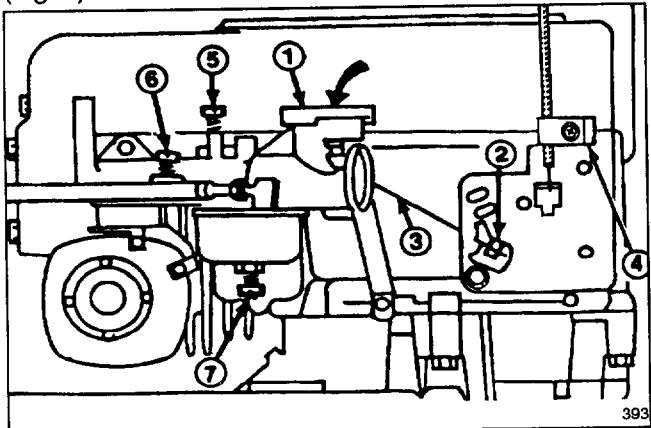

Figure 14
2. Move throttle control lever to CHOKE position and check the position of the choke butterfly; it should be fully closed (Fig. 14).
3. Move throttle control lever to FAST position. The butterfly should be in the fully open position (Fig. 14).
2. Loosen the throttle cable clamp screw (Fig. 14) and move the control cable casing and wire until the throttle lever touches choke link. Check for proper choke operation.
1. Needle Valve (Fig. 14) — Close valve by gently rotating it clockwise.
2. Rotate — open — the needle valve 2 turns counter-clockwise (Fig. 14).
4. Rotate needle valve (Fig. 14) clockwise, 1/8 turn at a time, until engine starts to lose speed. Let engine react to each 1/8 turn setting.
5. Rotate needle valve (Fig. 14) counterclockwise — out — 1/8 turn at a time, until engine first runs rough. Let engine react to each 1/8 turn setting.
6. Rotate needle valve (Fig. 14) clockwise — in — very slowly until engine starts to run smoothly. This setting, under no load, may be slightly rich; however, the slightly rich setting will assure proper operation when engine is under load.